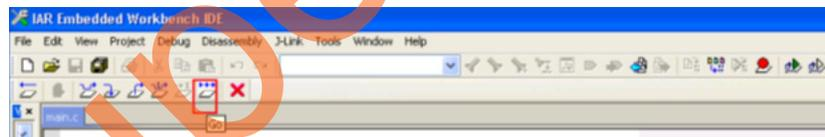

Figure 42 • IAR Workbench - Go Option
3. Click **Go** on IAR workbench to run the application, as shown in Figure 42.